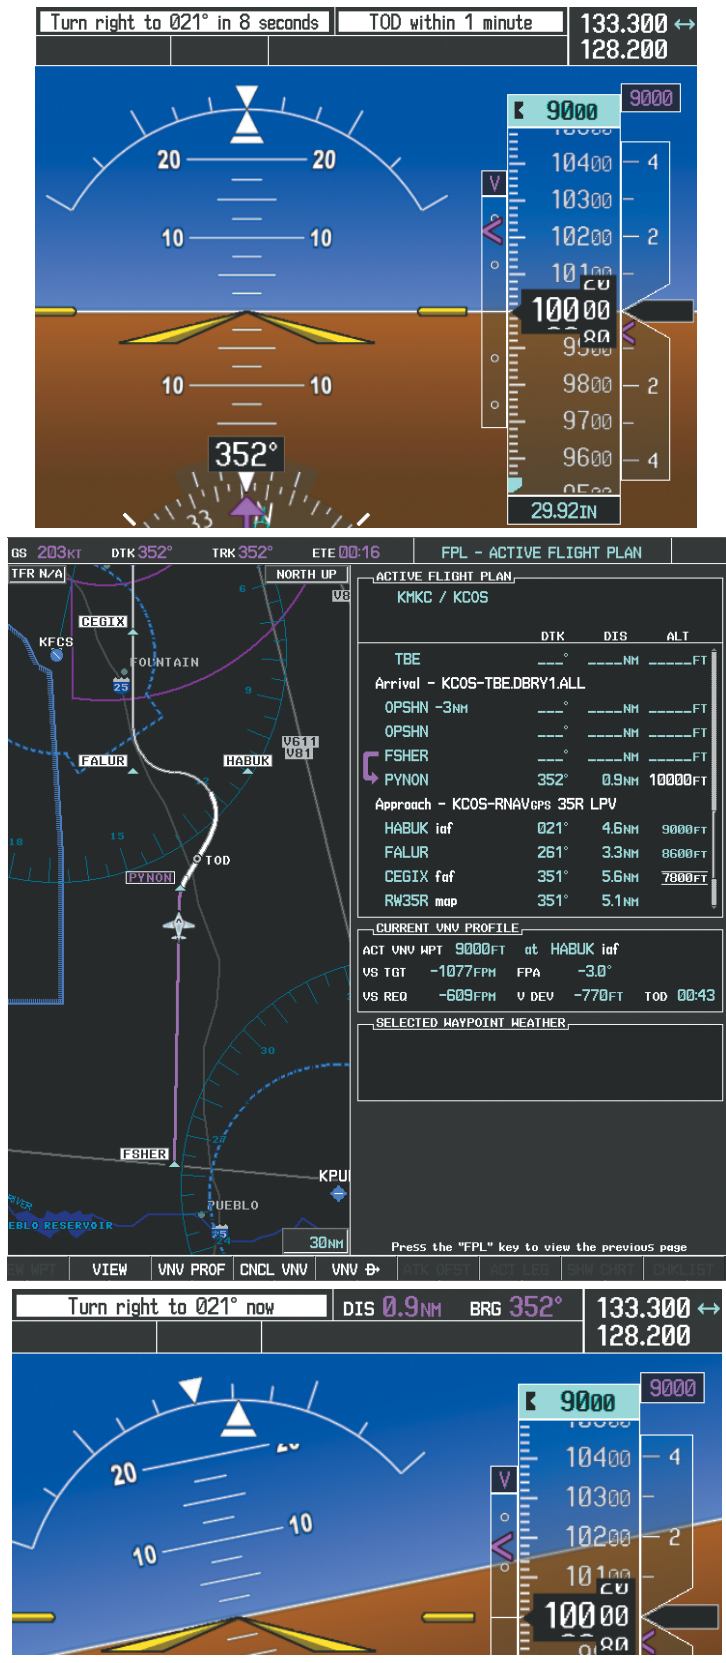

Figure 5-146 Approaching PYNON
- 20) The flight continues through the arrival procedure to PYNON (see Figure 5-146). At a point 31 nm from the destination airport, the phase of flight scaling for the CDI changes to Terminal Mode and is annunciated by displaying 'TERM' on the HSI.